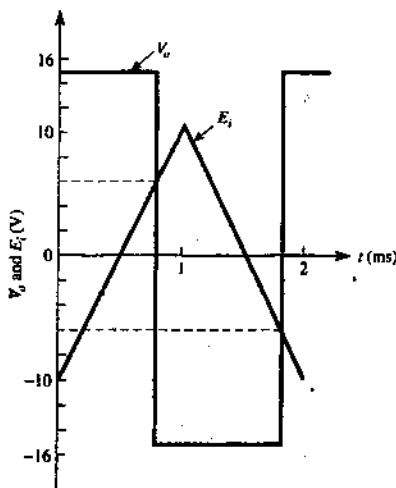

FIGURE P4-5
- 4-5. Given the waveshapes of  $E_i$  vs.  $t$  and  $V_o$  vs.  $t$  in Fig. P4-5, identify (a) the frequency of  $E_i$ ; (b) the peak amplitude of  $E_i$ ; (c) the value of  $V_{UT}$ ; (d) the value of  $V_{LT}$ ; (e)  $V_H$ .